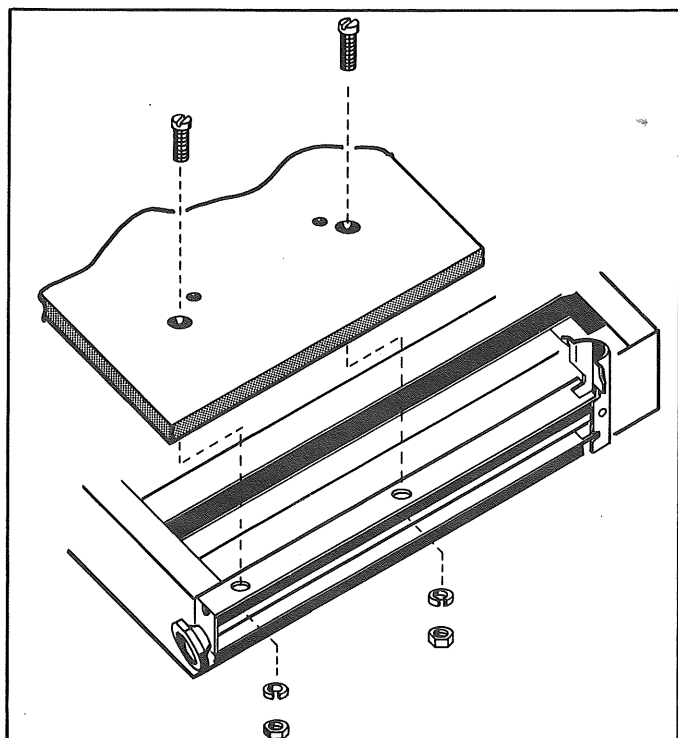

FIG. 14
1. Assemble large table board to leveling brackets. NOTE BOARD IS MARKED "FRONT-BOTTOM" — Fig. 14.